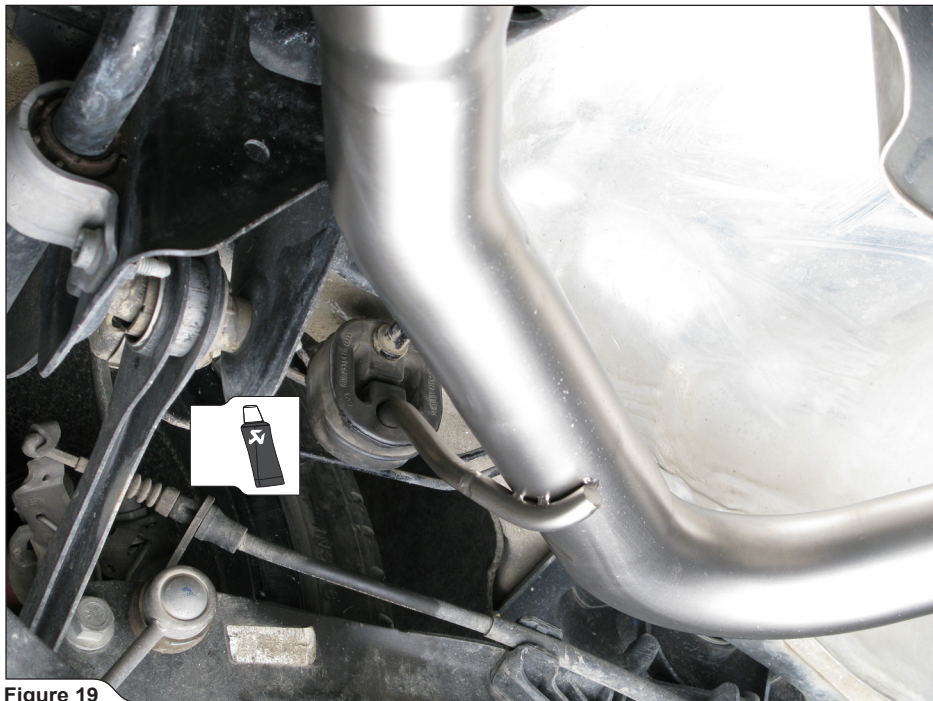

Figure 19
7. Hang the Akrapovič Link-Pipe onto three stock rubber brackets and slide the double clamp over the joint. Center the double clamp on the middle of the joint and tighten it to the specified torque (**Figure 19, 20**).